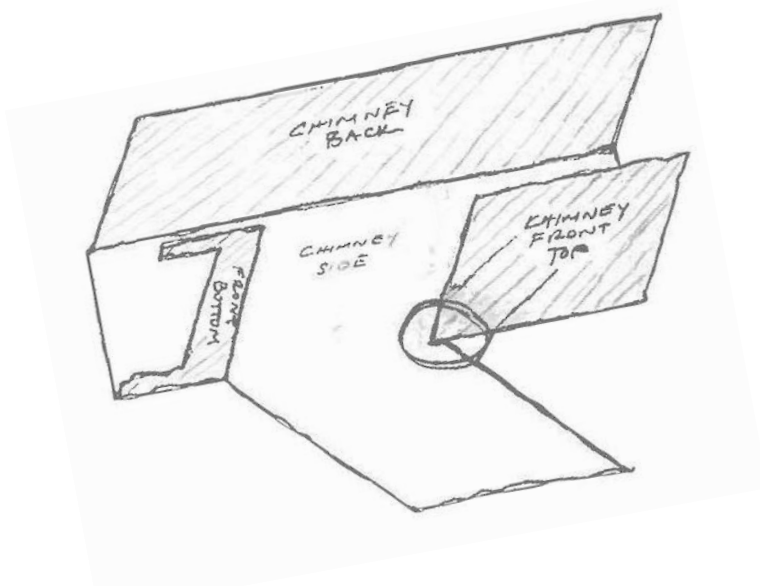

Figure 5 - Chimney Front Top extending past the Wood Box edge. (Image credit: Future Generations University)
13. Assemble the removable Wood Chute by tacking the two “Wood Chute Sides” to the “Wood Chute Bottom” and then adding the “Wood Chute Top” to make a rectangular box (see Figure 5). Weld this assembly together.